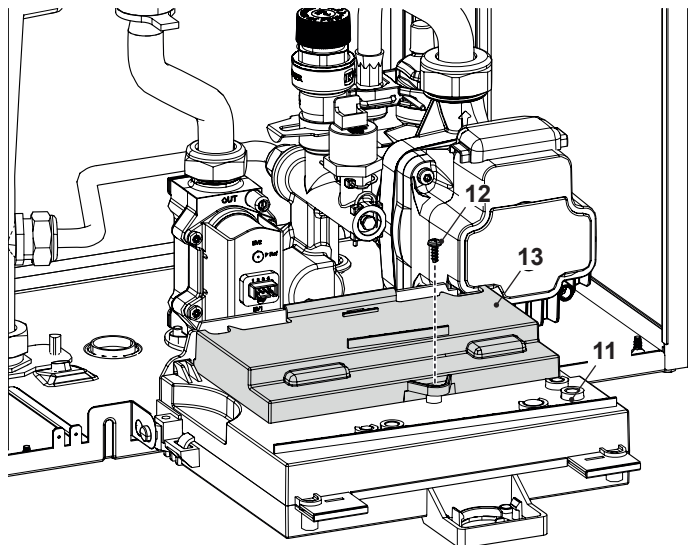

Figure 2.5
- 3 Unscrew the screw "12" and lift the cover "13" to access the electric power supply terminal block, remote and external sensor (Figure 2.5).